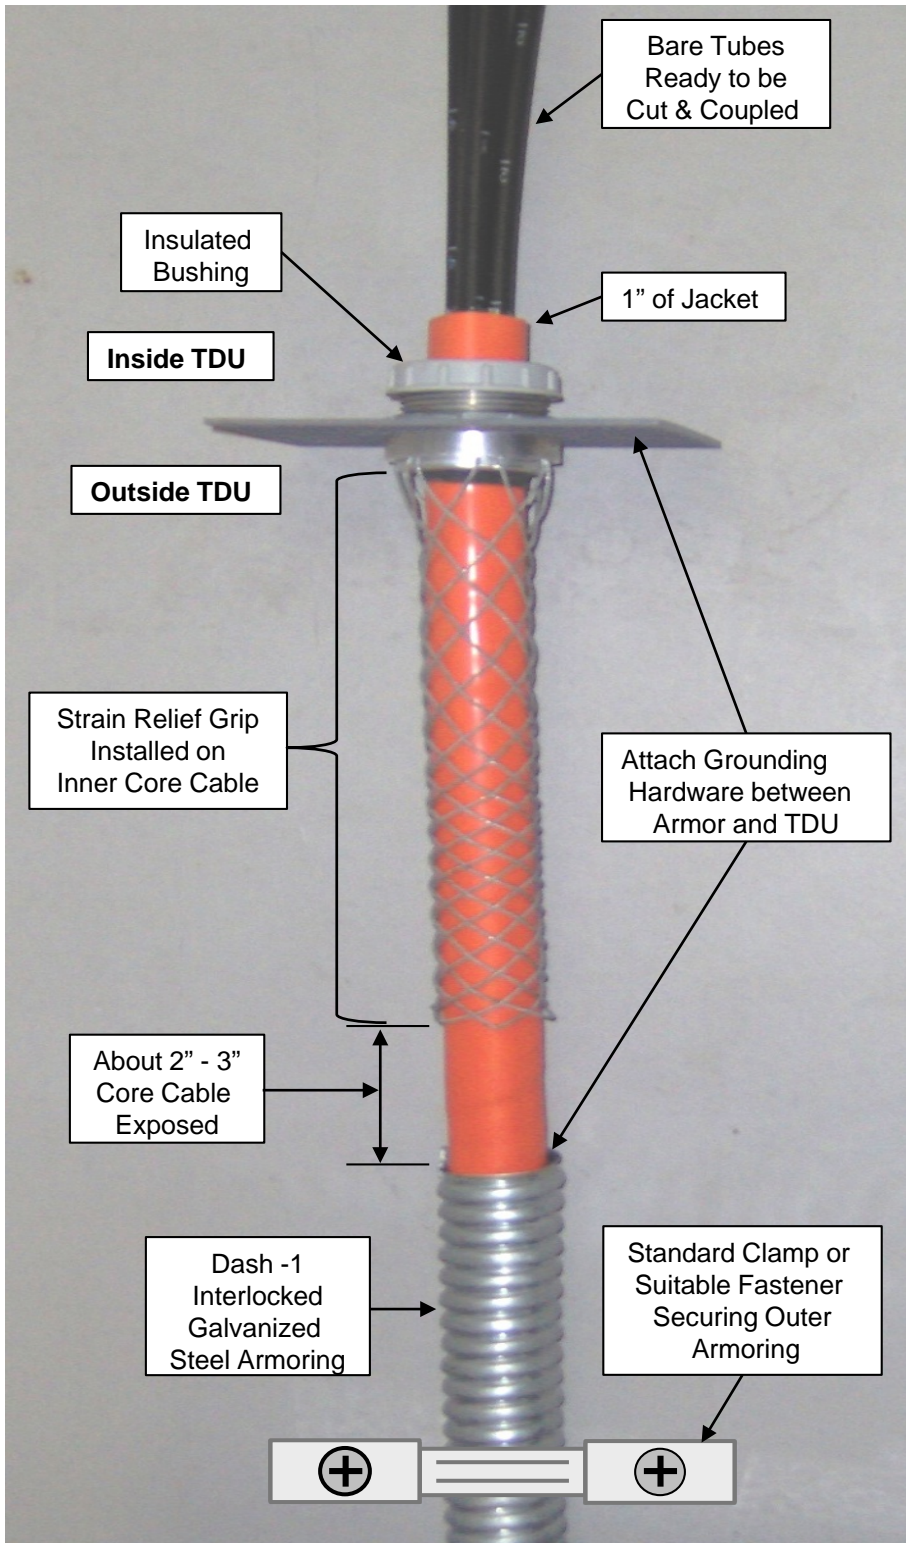

Figure 7
8.5 Prepare the tube cable for installation by first removing / unraveling the Interlock Galvanized Steel wrapping back to about 2”-3” longer than the wire basket of the selected Strain Relief Grip. Bend the steel wrap back and forth until it breaks and remove it from around the core cable. These steps expose a length of core cable beyond the armor. **See Fig. 7.**